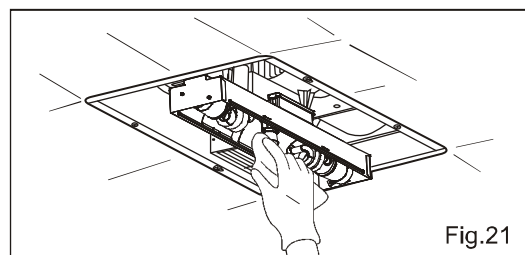

Fig.21
4. Using a cloth dampened with kitchen detergent, remove any dirt from fan body. Wipe dry with new cloth. (Fig.21)